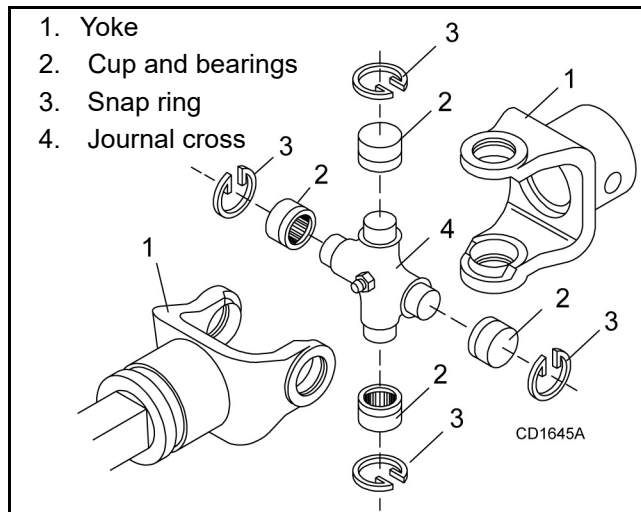

Figure 27. U-Joint Exploded View
1. Remove external snap rings from yokes in four locations as shown in Figure 27.